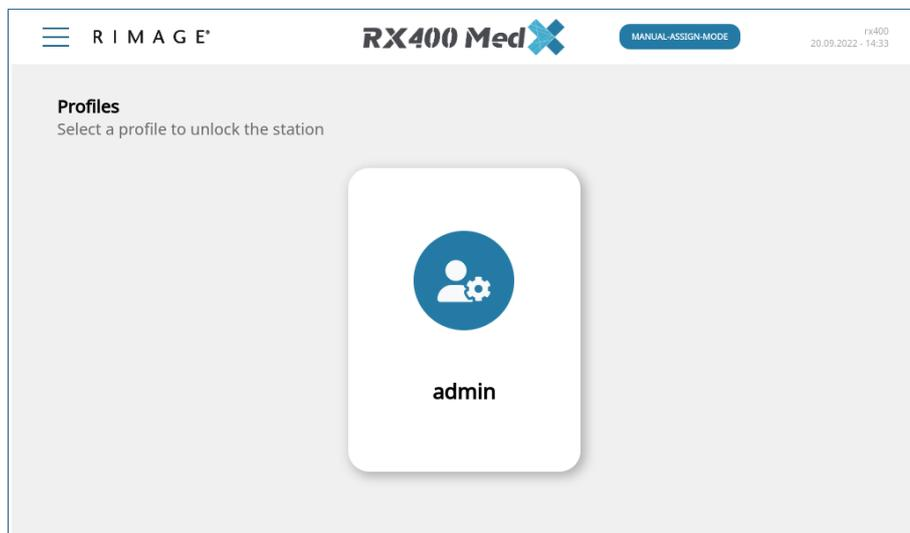

Figure 9: Select User Account
Step 1: Select user account (see Figure 9)